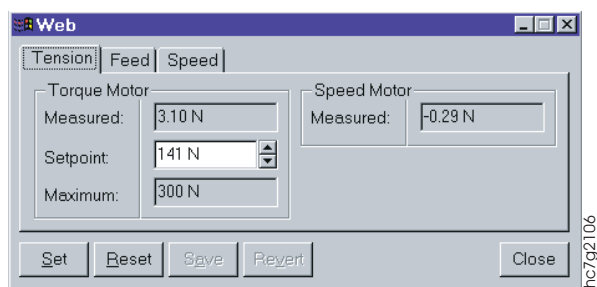

Figure 207. Web Tension Window
You can monitor the web tension difference across the speed motor in the **Web** window (Figure 207). If the web tension is out of range, you need to make adjustments to the torque motor setting.
1. Open the **Web** window and select the **Tension** tab, as shown in Figure 207.